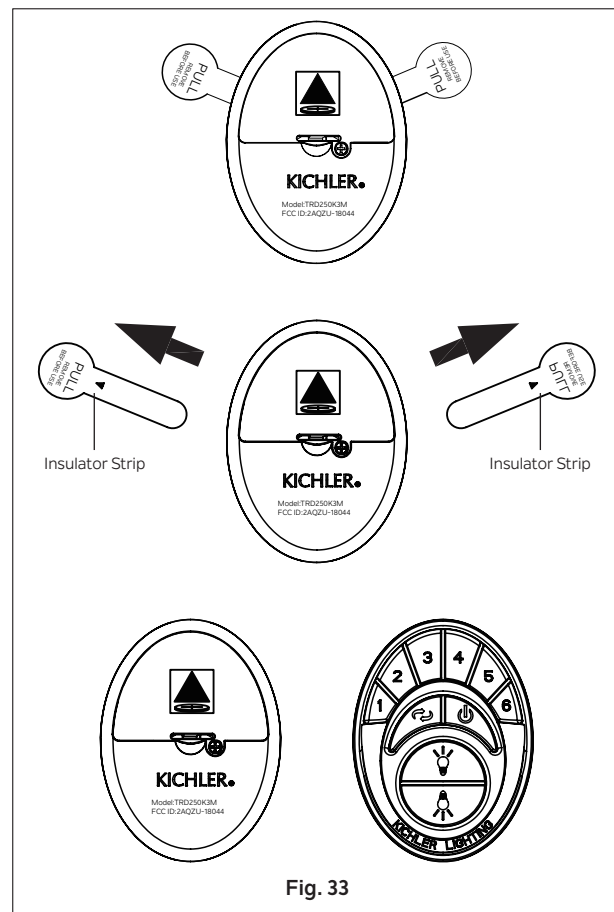

Fig. 33
Step 1. To activate the transmitter, carefully pull the insulator strips out of the transmitter to activate the two preinstalled CR2032 3V button/coin cell batteries. Discard insulator strips. (Fig. 33)